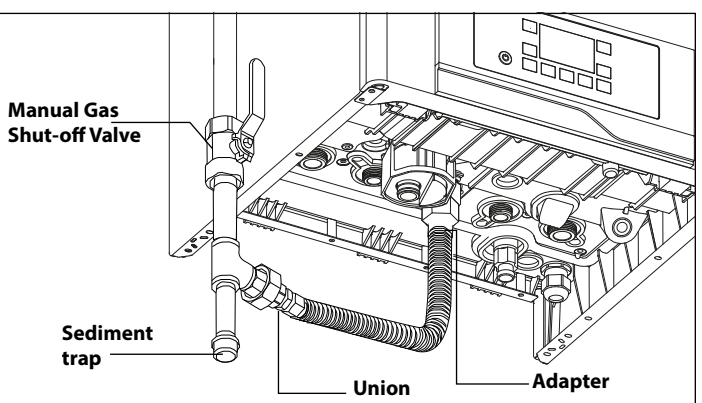

Figure 72 - Gas Line with Shut-Off and Sediment Trap Detail
- The National Fuel Gas Code (NFPA 54) requires that a sediment trap (drip leg) be installed in the gas line on boilers not so equipped. The drip leg must be accessible, a minimum of 3" in length, and not subject to freezing conditions. See Figure 72.
- A manual gas shut-off valve should be installed in the gas supply line close to the boiler. See Figure 72.